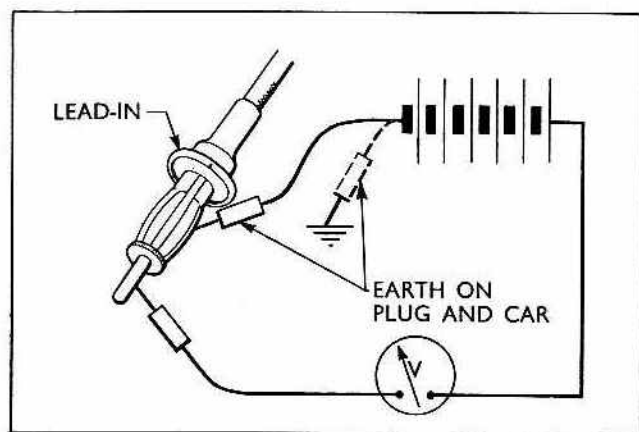

Fig. 604
- 1 Connect a suitable voltmeter and test battery in series with two test prods, as shown in Fig. 604. Check the battery voltage by momentarily connecting the two test prods.